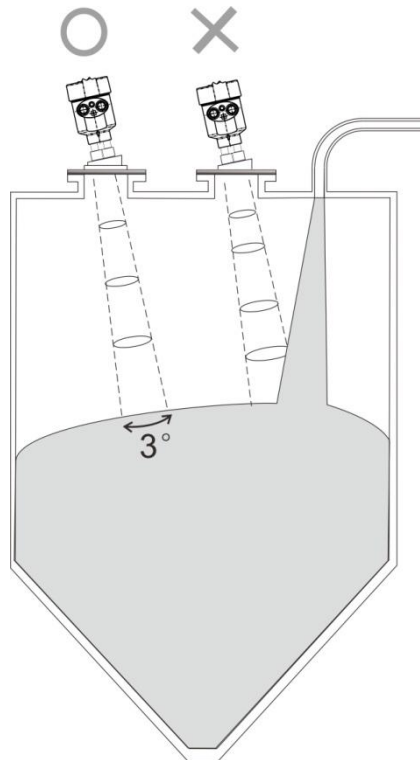

Fig 4-2 Example for avoiding false echoes
- Avoid the contact between antenna beam and feeding flow, as shown in Fig 4-2